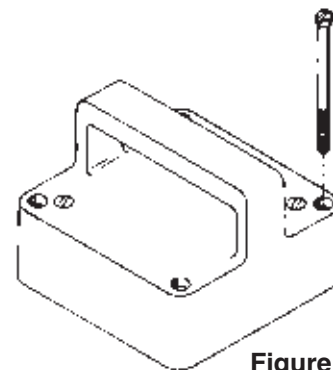

Figure 6
2. Remove the four machine screws holding the motor assembly to the pump housing. See Figure 6. Lift the motor assembly away from the pump housing to uncover the gear box.